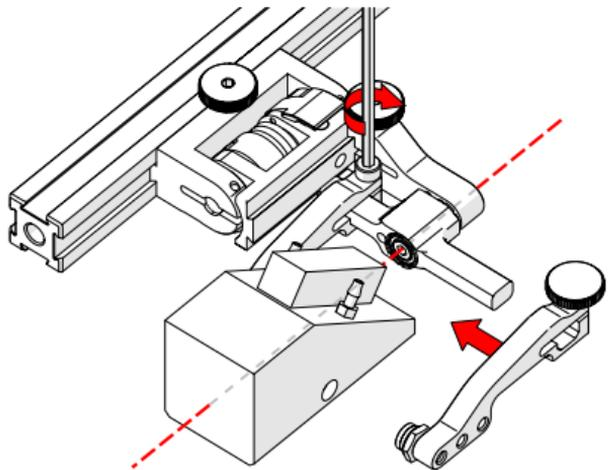

Fig. 94 - Place wedge
7. Position the wedge on the inner probe holder arm (Fig. 94).